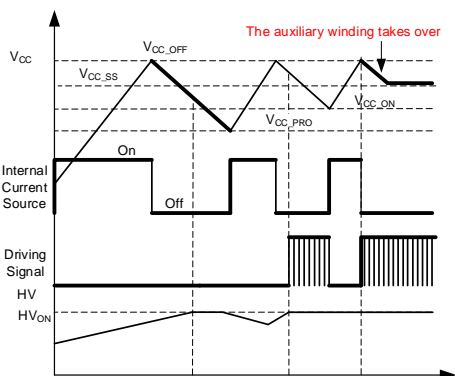

Figure 4: V_{CC} Under-Voltage Lockout
During start-up, the internal high-voltage (HV) current source supplies power to the controller. The controller turns off the current source once V_{CC} reaches V_{CC_OFF} (typically 15.5V) and detects the voltage on the HV pin. If the HV pin voltage (V_{HV}) exceeds HV_{ON} before V_{CC} drops down to V_{CC_SS} (typically 12V), the controller begins switching. If V_{HV} does not exceed HV_{ON} , the system treats this as a brownout and latches DRV low. When V_{CC} drops to V_{CC_PRO} (typically 5.5V), the high-voltage current source turns on to recharge V_{CC} . The auxiliary transformer winding supplies the IC after the controller starts switching. If V_{CC} falls below V_{CC_ON} (typically 8.5V), then the switching pulse stops and the current source turns on again. Figure 4 shows V_{CC} under-voltage lockout (UVLO).